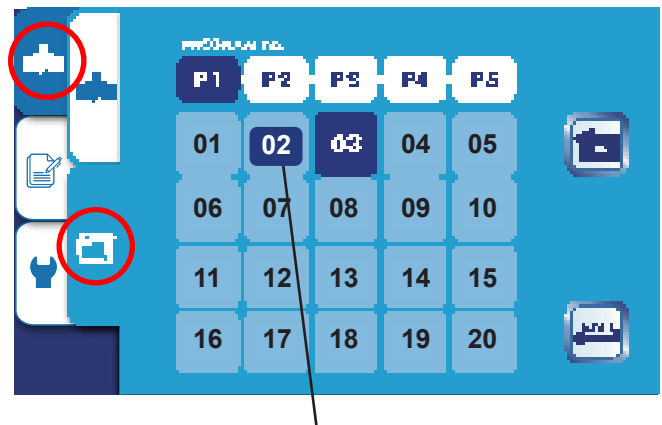

Fig. 11 Programmed Jobs
1. To cut using a programmed job, press the Cutting Mode icon and select the program Folder icon (Fig. 11), then select a job by pressing the Job # and press Enter.